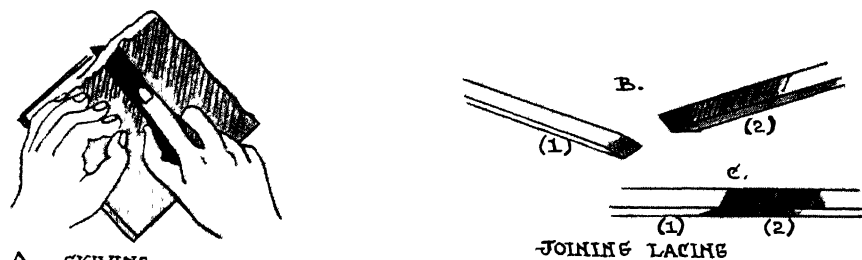

Fig. 6—Skiving and Joining Lacing
When more than one piece of leather is going to be used, as in a wallet or purse, the fleshy sides of the leather are tapered down at the edges (skived) to reduce the thickness. (Fig. 6-A.) Skive off layers of the fleshy surface until the desired thinness is reached.
To join two pieces of lacing, skive the upper side of one end (Fig. 6-B (1)), and then skive the under side of the second end piece. (Fig. 6-B(2.) Apply rubber cement to both skived surfaces and allow them to dry thoroughly. Then overlap the skived edges and press firmly in place. (Fig. 6-C.) When pieced in this manner, the joining will not be visible. (Fig. 6-C (1) and (2.)